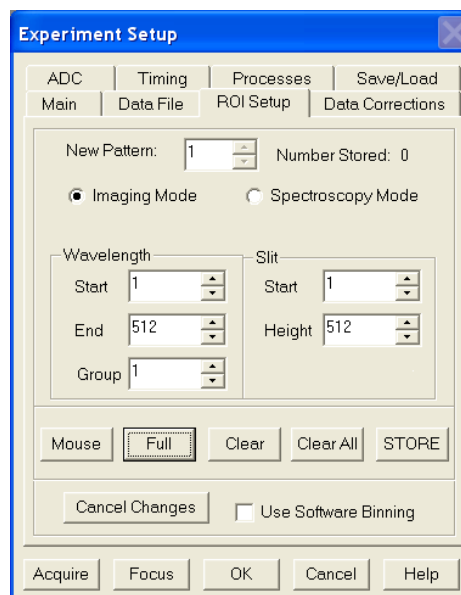

Figure 43. ROI tab - imaging selected
6. On the **ROI** tab (Figure 43), select **Imaging Mode**. WinSpec/32 operated in **Imaging Mode** always uses the full chip area and ROI considerations do not apply.